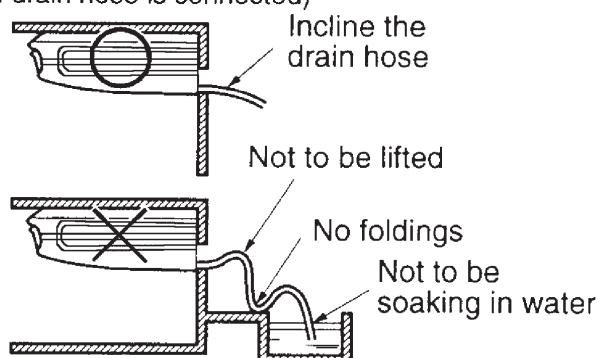

Fig.1
- Keep the drain pipe short and incline downwards at a gradient of at least 1/100 to prevent air pockets.(Refer to Fig.1)
- Use the attached drain hose ④ and clamp ⑤